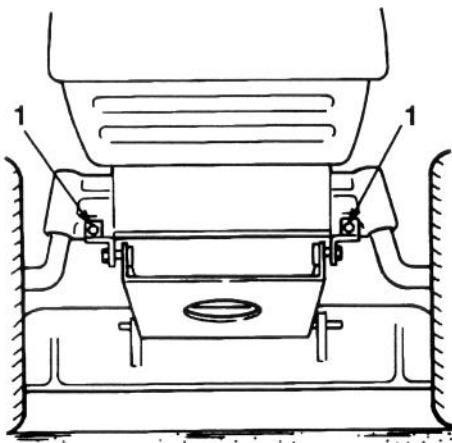

Figure 43
- Install the mower pivot mount brackets to the front axle with bolts and lock nuts (Fig. 43).